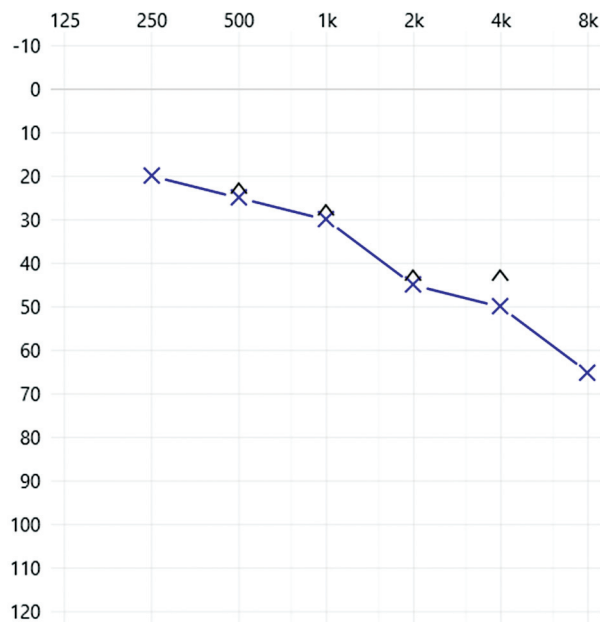

Figure 3 Audiogram for Activity 3.
- Select **Audiometry**, choose **None** under Targets, and select **Measure RECD**. We are not fitting to target for this activity, so we are essentially asking the Verifit to ignore this component of the Speechmapping screen by selecting no targets. Use the audiometric data in Figure 3 for this activity.